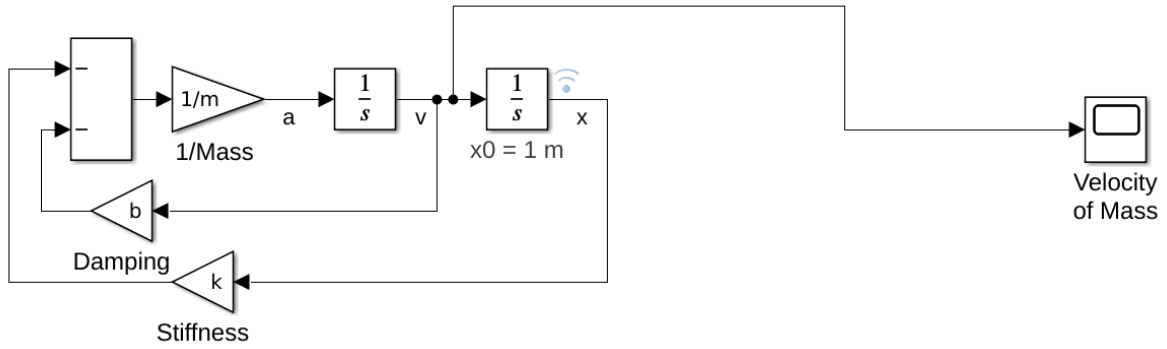

Figure 2: The Simulink model of the mass-spring damper.
1. Rearrange equation (1) so that only the term  $\ddot{x}$  is in the left hand side of the equation.
2. Construct a Simulink model of the system as shown in Figure 2 with the following values of parameterd  $b = 10$ ,  $k = 400$ ,  $m = 20$ .